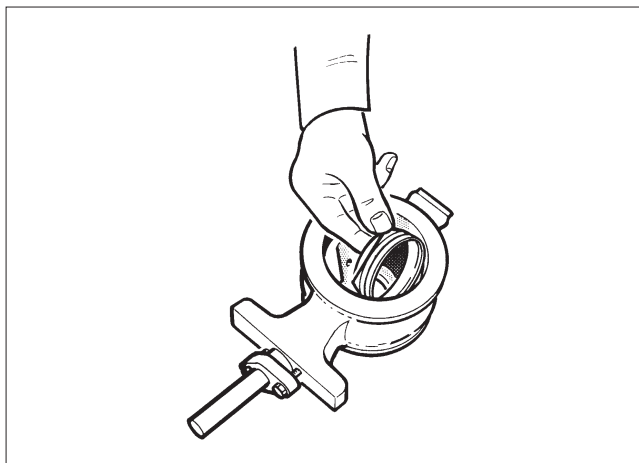

Fig. 13 Lifting the seat
- Turn the valve and lift the seat from the body through the downstream flow port, Fig. 13.